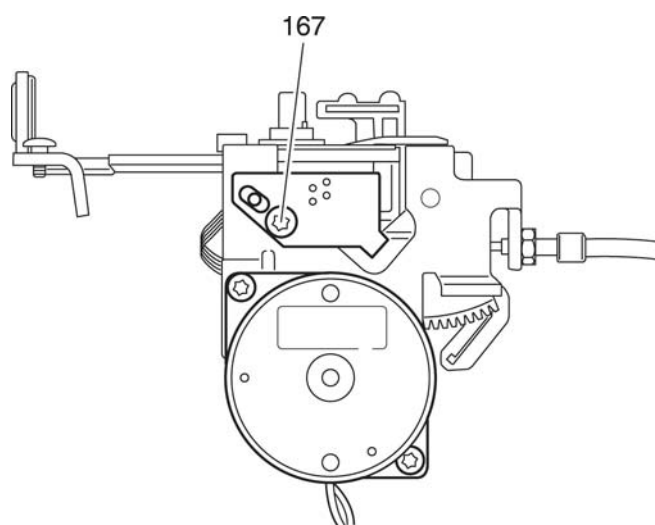

Fig. 49a
- Slacken off screw 167 slightly on the circuit board (Fig. 49a).